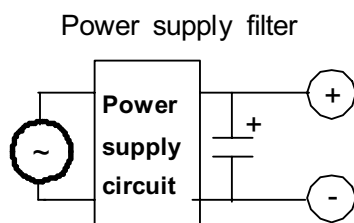

Fig. 1
- ▶ The voltage derating factor should be as great as possible. Under normal conditions, the operating voltage should be reduced to 50% or less of the rating. It is recommended that the operating voltage be 30% or less of the rating, particularly when the tantalum capacitors are used in a low-impedance circuit (see Figs. 1, 2, and 3).